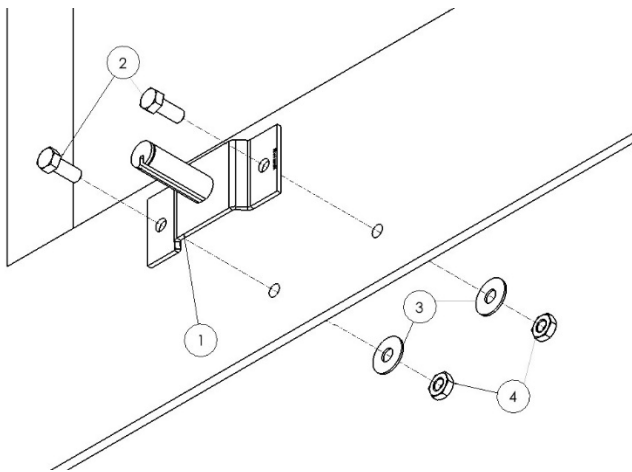

Figure 3.4
Hold the pivot pin (1) centered over the mark created and mark the two mounting holes for drilling. Using a 11/16" drill bit, drill out the mounting holes on both sides of the dump box. Mount the pivot pin with the groove facing down and use the supplied 5/8" x 1-1/2" hex bolt (2), 5/8" washer (3), and 5/8" hex nut (4) to secure the pivot pin to the dump box as shown in Figure 3.4.